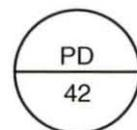

Figure 61. Instrument Tag
1. Determine the measured variable and function of the device using the instrument tag in figure 61.